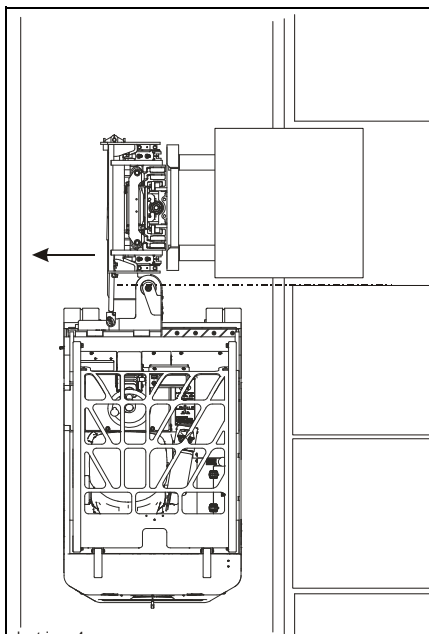

Figure 4-14: Shifting Load to Left
11. Shift the load as far as possible to the left. See Figure 4-14.